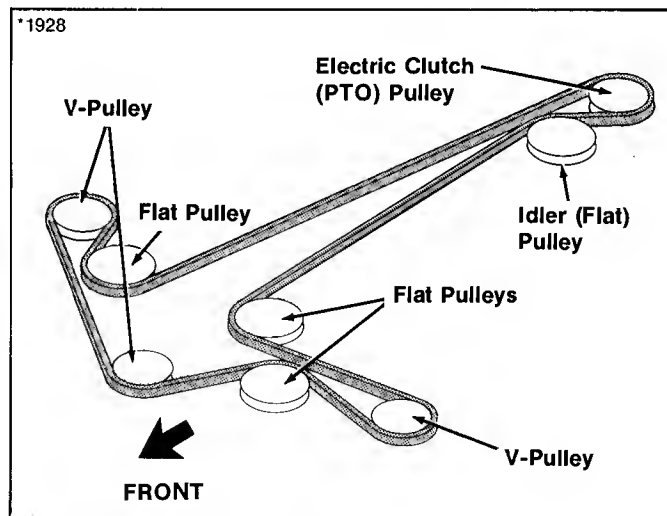

Figure 32. Mower Belt Pattern
- g. Check belt pattern as shown in figure 32. Make sure mower belt goes underneath rider **over the drive axle..**